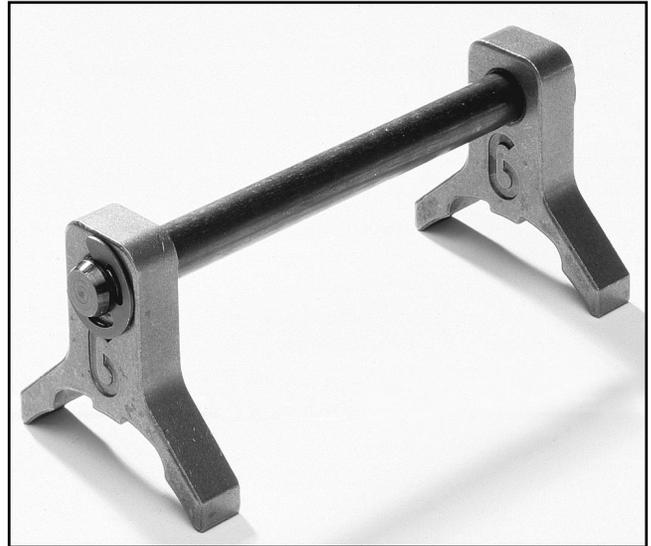

Figure 12. Knife setting gauge.
2. Attach the E-clips to the notches to lock adjustment arms onto the steel rod. The adjustment arms are symmetrical, so the placement is not a concern. See **Figure 12**.